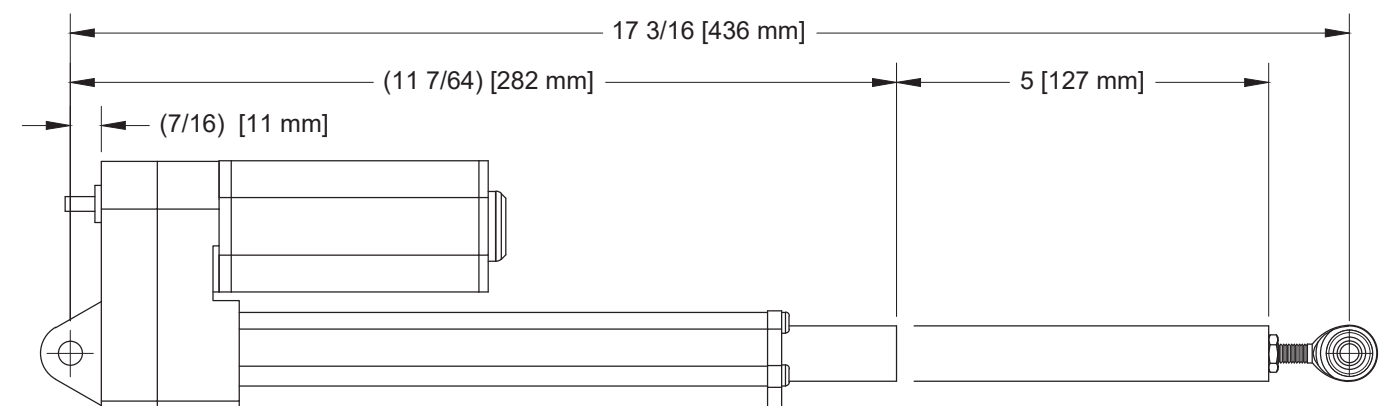

FIGURE 4: FLAP MOTOR EXTENDED & RETRACTED LENGTHS
Step 4: With the flap motor shaft extended to its maximum length, adjust the rod end bearing to match the center to center distance shown in Figure 4. Add a drop of Blue Loctite to the rod end threads and tighten the jam nut against the face of the actuator shaft, keeping the rod end bearing face vertical as shown in Figure 4.